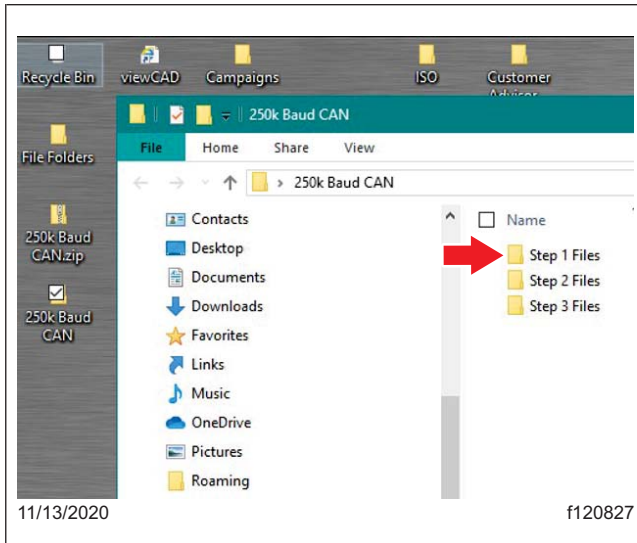

Fig. 9, Selecting the Step 1 Files Folder
11. A new window will open with three folders inside. Double click the folder named 'Step 1 Files,' shown in Fig. 9.